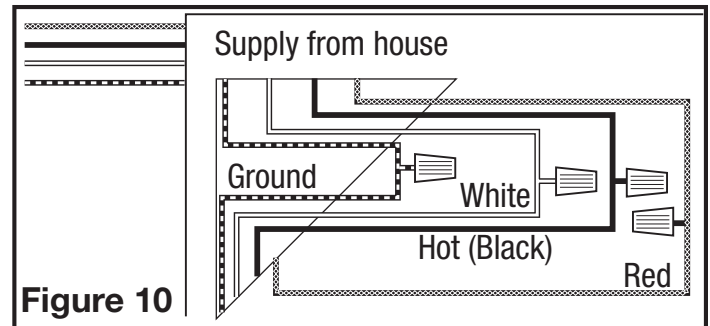

Figure 10
- 3b. From where you have chosen to access the fan's junction box, connect the white wire from the house to the white wire from the fan. Connect the wire from the automatic position on the wall switch to the black wire from the fan, connect the wire from the manual On position on the switch to the red wire from the fan. Connect the ground wire from the house to the green wire from the fan housing (Figure 10). Use approved methods for all connections.